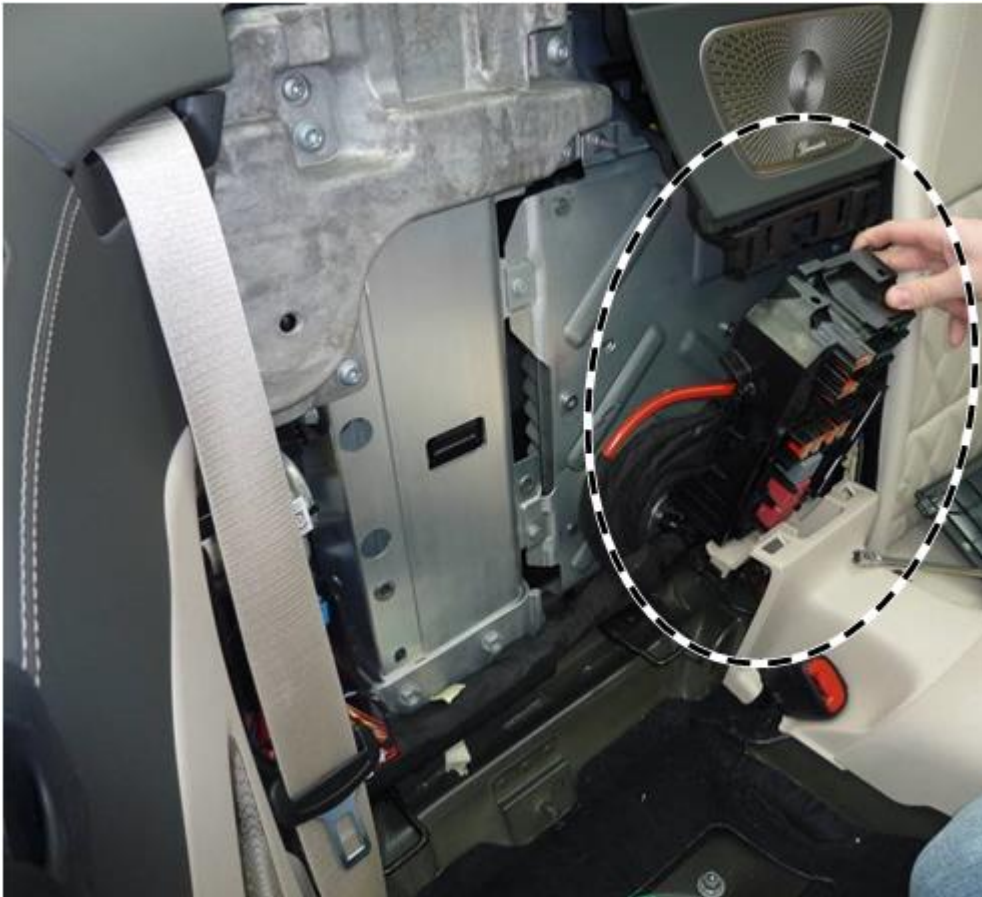

Figure 1
3. Release fuse and relay module (**Figure 1**) and fold forward with connected lines.